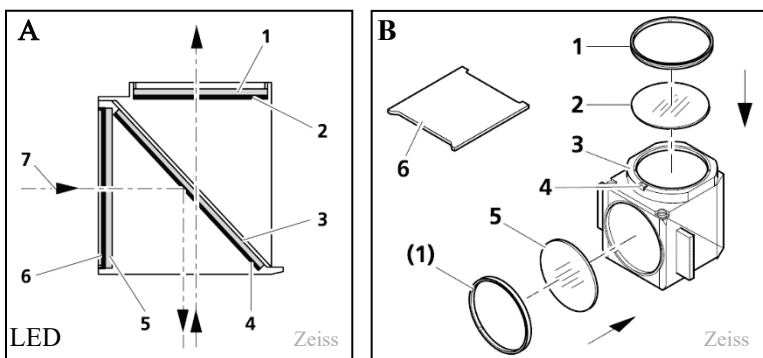

Fig. 57: Reflector module with filter configuration
A) The arrows in Fig. 57/A1 mark the path of the illumination beam or the imaging beam seen from the side. B) lists the different filters and parts that may be needed. The detector filter B /2 (RG665), a filter for the excitation light source (B /5 - normally not needed). B /6 is the mounting tool for the adapter rings (B /1). The beam splitter filter (A /3) is already mounted in this figure (see Fig. 57/B).
When purchasing the filters separately, independently of the original Zeiss reflector module frame (424931-0000-000), they have to be mounted into the reflector module FL according to the description in this chapter. The red filter RG665 (25 mm in diameter) is inserted on top of the reflector module and held by the adapter ring 1 (Fig. 57/B), so that the filter will show towards the camera of the IMAGING version.
The rectangular beam splitter filter is mounted in a 45° angle (Fig. 57/A3). The mirrored side has to show towards the LED light source. The coating faces outward (in relation to the reflector module) in the direction of the excitation filter (Fig. 57/B5 – not used in the standard setup).
The reflector module is inserted after turning it by 180° around its vertical axis (the reflector module is mounted with its excitation filter side Fig. 57/A7 facing to the front). It shall be inserted carefully into the upper spring elements. Then engage it firmly by gently pressing it down into the turret.